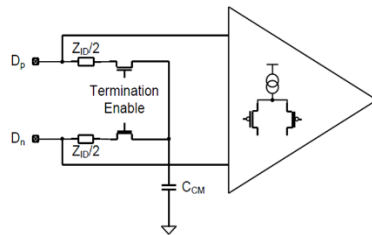
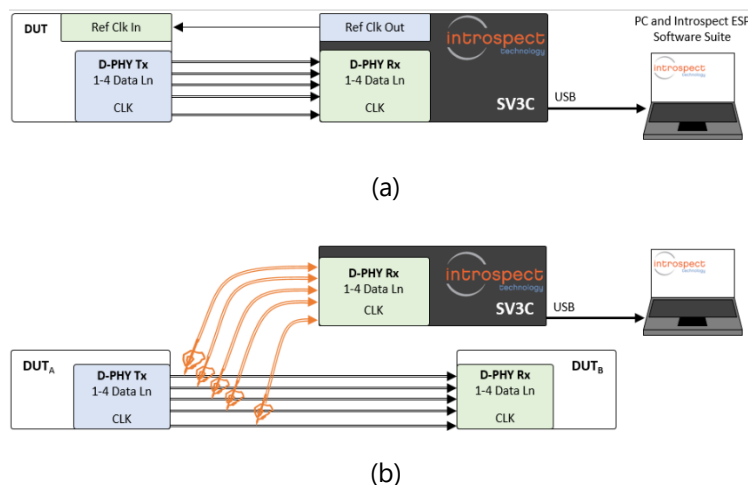

Figure 1 SV3C receiver illustration showing automatic termination switches.
Figure 2 (a) Illustration of the DPRX as a terminating end-point receiver, or (b) while probing a complete D-PHY link.
The SV3C DPRX is a complete, integrated, 4-lane D-PHY receiver providing the analog front-end circuitry for D-PHY as well as a complete protocol back-end. As shown in Figure 1, each lane contains low power (LP) threshold voltage detectors, dynamically controlled D-PHY termination resistors, and fully differential high speed (HS) receivers. The real-time behavior of the DPRX enables broad acquisition capabilities on physical-layer and protocol-layer events as detailed in Figure 2. The figure illustrates two common setups for deploying the DPRX, which can be used as either a terminating receiver or to probe live links.